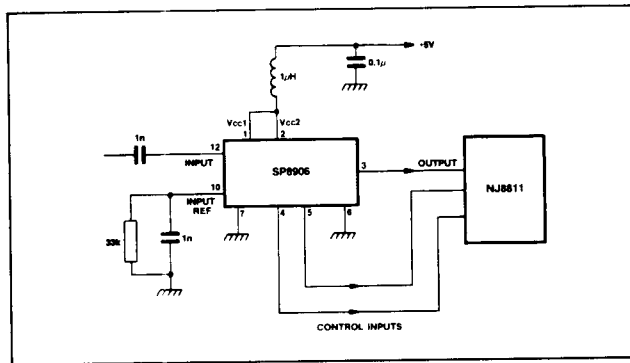

Fig.5 Typical application showing interfacing to NJ8811
2. If no signal is present the device will self-oscillate. If this is undesirable it may be prevented by connecting a 33k or greater between pin 10 and ground (pin 7), see Fig. 5.
7. The minimum input sinewave frequency can be improved by adding hysteresis (See Fig. 5) to reference inputs.
8. Under certain conditions, when the device is dynamically locked, an oscillation occurs which can be prevented by insertion of a 1 μ H RF choke in series with V_{cc1} and V_{cc2} . Under these conditions V_{cc1} and V_{cc2} pins should not be decoupled. See Fig. 5.